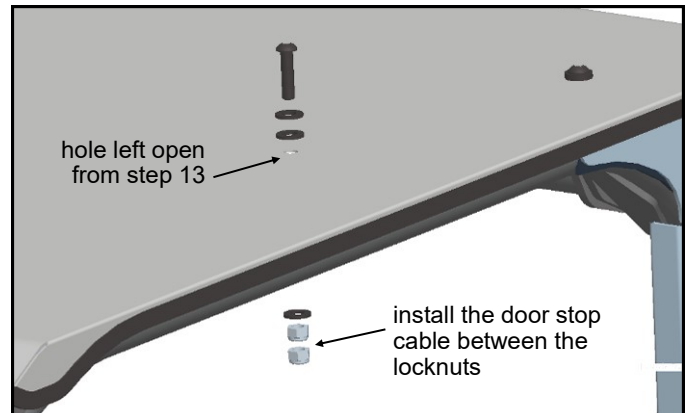

Fig. 14.1 (install door stop cable bolt)
13. Using a screwdriver, puncture the headliner at each hole location from the inside out to allow the bolt to pass through. Attach the roof to the supports using ten 5/16-18 x 1" button head bolts, twenty 5/16" steel washers, ten 5/16" nylon washers, and ten 5/16" lock nuts. Note: there will be two holes left open at this time that are shown in fig. 14.1.
14. Per figures 14.1 and 14.2, install the bolt for the door stop cable (one per side of roof) as shown. Use the following hardware per side: one 5/16-18 x 1 1/4" long button head bolt, two steel washers, one plastic washer, and two locknuts. With the roof oriented as shown (with the headliner down), install one steel washer and one plastic washer on to the bolt. Feed the bolt through the sheet metal and through the foam headliner. Install the second steel washer and one locknut. Tighten the locknut. Install one end of the door stop cable onto the bolt. Install the second locknut, but do not tighten it up against the door stop cable. There should be a small intentional gap so the cable can rotate freely. Repeat in the last remaining roof hole.